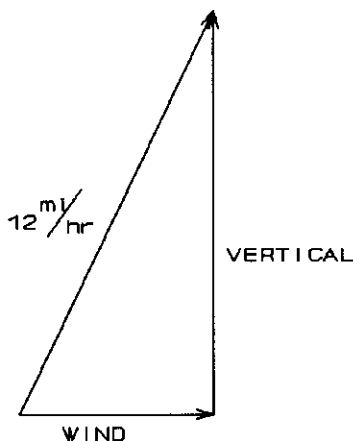

Figure M-7-7
3. A balloon is ascending at a rate of 12 ml/hr at an angle of 55 with respect to the ground. Find the speed of the wind pushing the balloon sideways and the vertical speed of the balloon (see Figure M-7-7, "Triangle E").